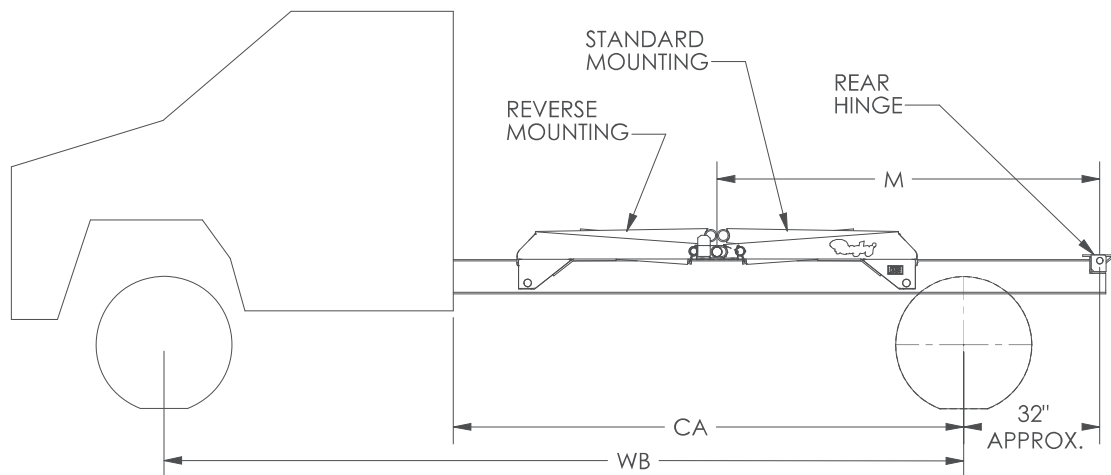

Figure 2: Mounting Distance
The following charts are to be used as a reference when determining capacity based on overhang. The capacity and dump angle will vary depending on where the hoist is mounted in relation to the rear hinge. The following tables list dump angles and corresponding capacities for different mounting distances (M) (refer to Figure 2). REMEMBER, all capacities listed below are based on water level, non-diminishing loads and the hydraulic relief pressure set at the maximum of 3200 PSI.
2. Locate the hoist on the truck frame, making sure to center the hoist right and left, and to square the hoist with the truck frame. The hoist is designed to rest on the truck frame as shown in Figure 2. A small portion of the hoist extends below the truck frame, allowing the hoist to be moved forward or rearward to avoid truck cross members.
- If an obstruction can not be cleared by moving the hoist forward or rearward, the hoist may be reverse mounted as shown in Figure 2, or the portion of the hoist that extends below the frame may be lifted to the frame level without affecting the capacity or performance of the hoist. Be aware that lifting this portion of the hoist will raise the hoist mounting height.
- The distance between the rear hinge shaft center and the saddle center is referred to as the "M" dimension. In Figure 2, the "M" dimension for several dump angles are tabulated.